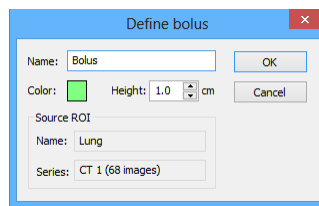

Figure 273 – Define bolus dialog
3. The **Define bolus** dialog (see Figure 273) is then displayed in which you carry out the following: